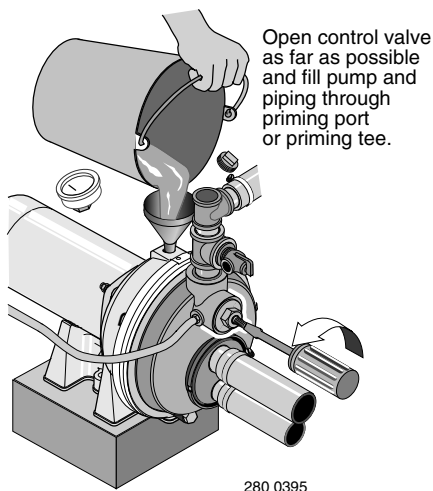

Figure 15: Fill Pump
1. Open the control valve as far as possible (see Figure 15). Then remove the priming plug from the pump and fill the pump, fill all piping between the pump and the well, and make sure that all piping in the well is full. If you have also installed a priming tee in the suction piping, remove the plug from the tee and fill the suction piping.